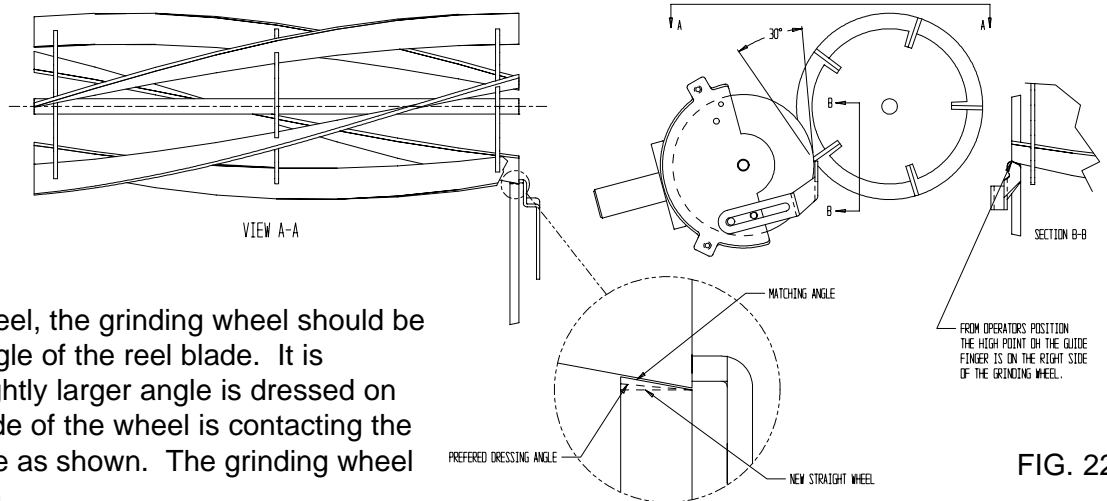
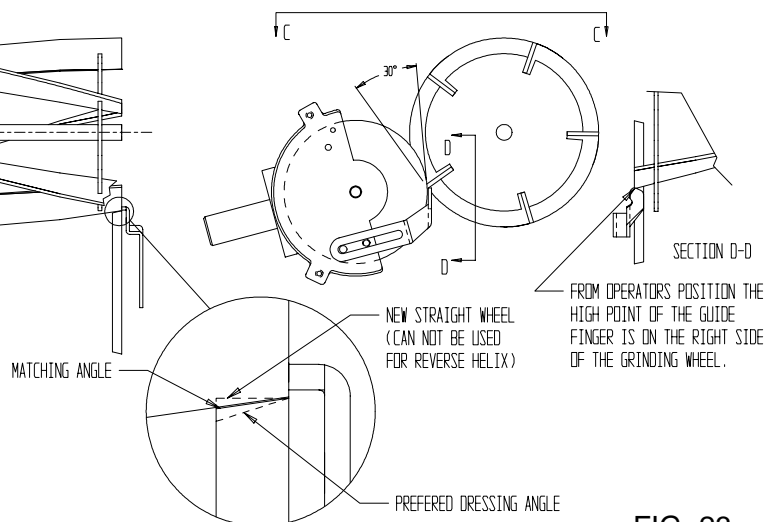

FIG. 22
FIG. 23
A. Check to see if your mowing unit is a normal or reverse helix. NOTE: As you look into the guide finger in FIG. 22 it shows the normal reel helix. The high point of the finger guide is on the right hand side of the grinding wheel. See FIG. 23 for reverse helix. Most mowing units are normal helix.
The high point of the guide finger (#) must always be at the corner of the grinding wheel (#) that is making contact with the reel. (See FIG. 22 and 23)